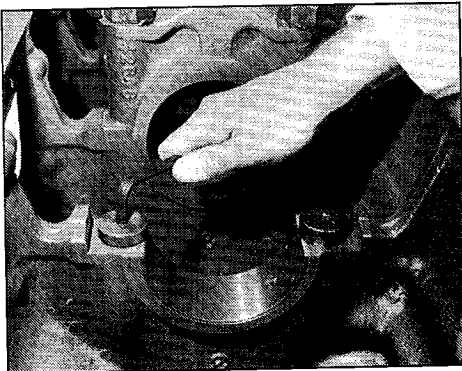

FIG. 1 TORQUE BOLTS
4. Install hold-down bolt in the other bolt hole (also use washer if provided in kit) and torque to approximately 20 ft. lbs. (Fig. 1).